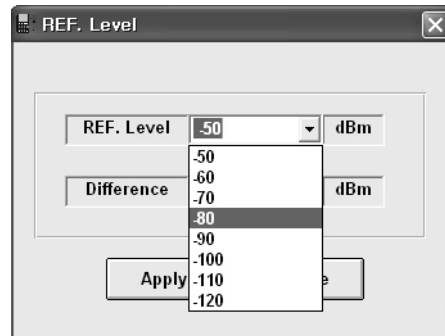

Figure 4.9. Setting the values of Reference Level and Difference Level
- 1) "Set REF. Level" menu function could be using by setting reference level value. Select this menu as figure 4.9 executing set reference level windows. Relating this contents refer to "3.2.7. setting reference level".
- 2) As Figure 4.9 set reference level window display Reference level value and difference level value. For reference consideration measuring signal for which appointing display window level value also Difference level value is level grid value of display window.